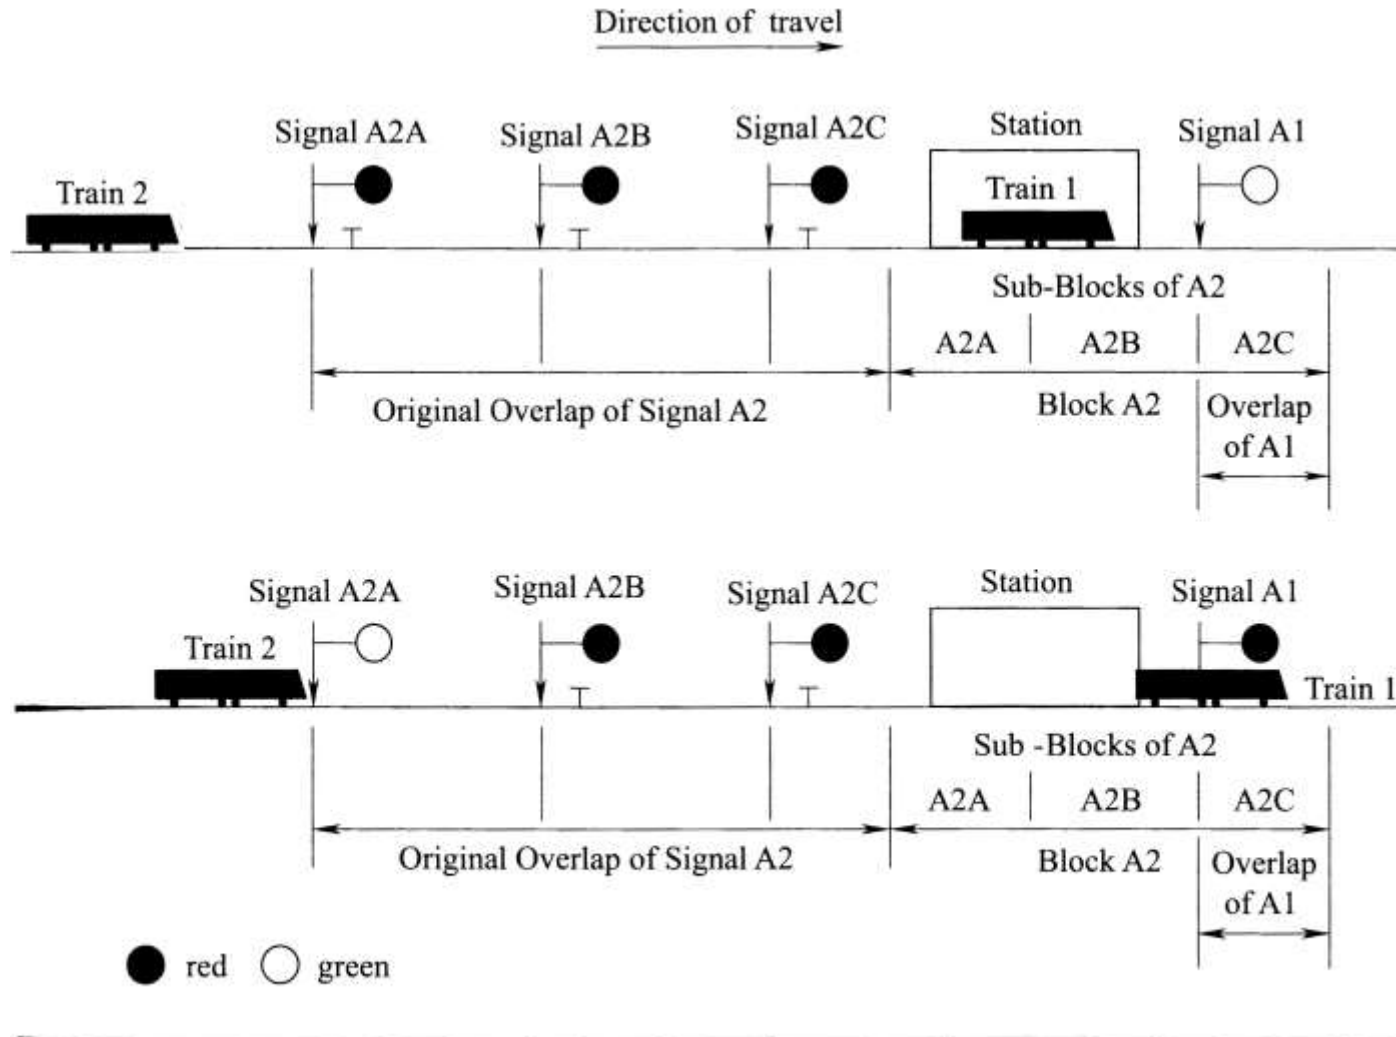

Fig. 7.3 Multi-home signaling system
- ◆ A way was found to allow the second train to keep moving. It is called **multi-home signaling** (Fig.7.3).